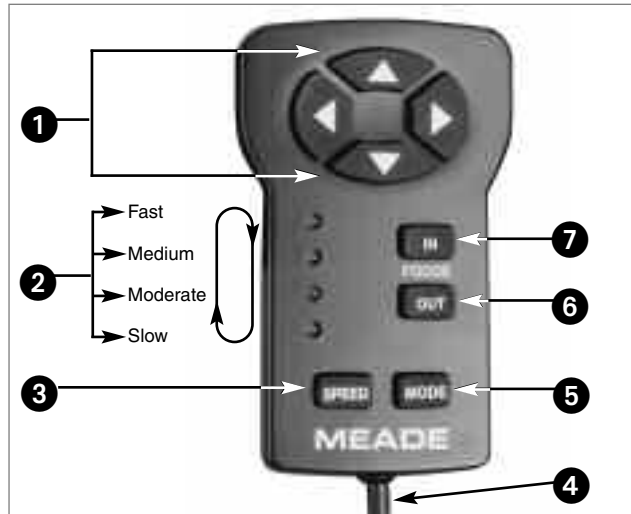

Fig. 49: Electronic Controller. (1) Arrow Keys; (2) Indicator Lights; (3) SPEED Key; (4) Coil Cord; (5) MODE Key; (6) OUT Key; (7) IN Key.
Some LXD75 models (designated with an "EC," for example, AR-5EC) come equipped with an Electronic Controller (EC) handbox, rather than the Autostar Handbox. The Electronic Controller provides you with the means to control the telescope motors from a compact handbox. The Electronic Controller (Fig. 49) has soft-touch keys designed to have a positive feel, even through gloves.
The following numbers refer to Fig. 49 above.
- 3 SPEED Key:** Press SPEED to change the speed at which the telescope slews to an object. Each press of the SPEED key changes the slew speed to the next *slower* setting. If the controller is already on the slowest slew speed (light 4), pressing SPEED cycles back to the highest speed (light 1). Slew speeds are signified by the indicator lights (2, Fig. 49).
4. Plug in the Electronic Controller coil cord (4, Fig. 49) to the HBX port (24A, Fig. 1) on the Computer Control panel.
8. Use the four Arrow keys (1, Fig. 49) to slew the telescope to the desired object. To change the slew speed, press SPEED.
For objects, like the Moon or a comet, that move at slightly different rates, the Electronic Controller Arrow keys (1, Fig. 49) are sufficient to move the telescope slightly as the object very slowly moves off-center through the eyepiece field.
1. Press and hold MODE (5, Fig. 49) until the Mode function is active (*i.e.*, lights 1 and 2 are on steady; lights 3 and 4 signify whatever tracking mode was last chosen).
2. Press SPEED (3, Fig. 49) until lights 1, 2, and 3 are on steady with light 4 blinking. The telescope is now in the Northern Hemisphere polar mode.
3. Press IN (7, Fig. 49) and light 4 comes on steady. The tracking rate is now 0.5% *faster* than sidereal. If the object you're tracking is moving faster than the sidereal rate, look through the eyepiece and press IN. Each time you press IN, the tracking rate increases by 0.5%. **Note that when the Mode function is active, the tracking motor stops. To restart the tracking motor, press MODE again.** Experiment with this function to get the right speed: Press IN to set the tracking rate. Then press MODE and look through the eyepiece. Continue pressing IN and MODE until the object remains centered with little or no drifting in the eyepiece.
4. To use a rate slower than sidereal, press OUT (6, Fig. 49) until light 4 blinks again (sidereal rate). Press OUT again and light 4 goes out, signifying a tracking rate 0.5% *slower* than sidereal. **Note that when the Mode function is active, the tracking motor stops. To restart the tracking motor, press MODE again.** Experiment with this function to get the right speed: Press OUT to set the tracking rate. Then press MODE and look through the eyepiece. Continue pressing OUT and MODE until the object remains centered with little or no drifting in the eyepiece.
6. Use the four Arrow keys (1, Fig. 49) to slew the telescope to the desired object. To change the slew speed, press SPEED.
1. Press and hold MODE (5, Fig. 49) until the Mode function is active (*i.e.*, lights 1 and 2 are on steady; lights 3 and 4 signify the tracking mode last chosen).
2. Press SPEED (3, Fig. 49) until lights 1 and 2 are on steady, light 3 is off, and Light 4 is blinking.
3. Press IN (7, Fig. 49) and light 4 comes on steady. The tracking rate is now 0.5% *faster* than sidereal. **Note that when the Mode function is active, the tracking motor stops. To restart the tracking motor, press MODE again.** Experiment with this function to get the right speed: Press IN to set the tracking rate. Then press MODE and look through the eyepiece. Continue pressing IN and MODE until the object remains centered with little or no drifting in the eyepiece.
- To use a rate slower than sidereal, press OUT (6, Fig. 49) until light 4 blinks again (sidereal rate). Press OUT key and light 4 goes out, signifying a tracking rate 0.5% slower than sidereal. **Note that when the Mode function is active, the tracking motor stops. To restart the tracking motor, press MODE again.** Experiment with this function to get the right speed: Press OUT to set the tracking rate. Then press MODE and look through the eyepiece. Continue pressing OUT and MODE until the object remains centered with little or no drifting in the eyepiece.
- Use the four Arrow keys (1, Fig. 49) to slew the telescope to the desired object. To change the slew speed, press SPEED.